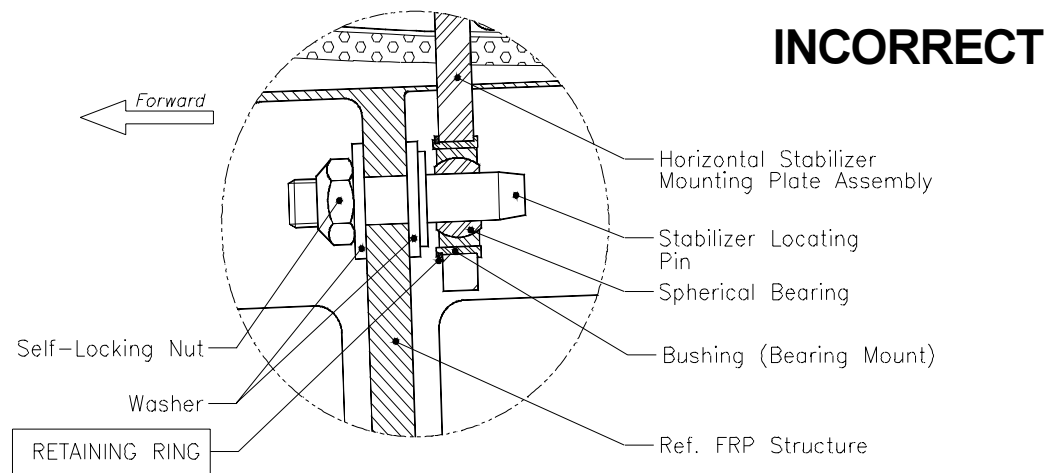

Figure 3. Detail A - Incorrect Retaining Ring Installation.
- 10.4 If stabilizer mount is assembled incorrectly (as shown on figure 3), remove horizontal stabilizer in accordance with the Maintenance Manual, remove snap ring, remove bushing and reassemble in correct sequence.